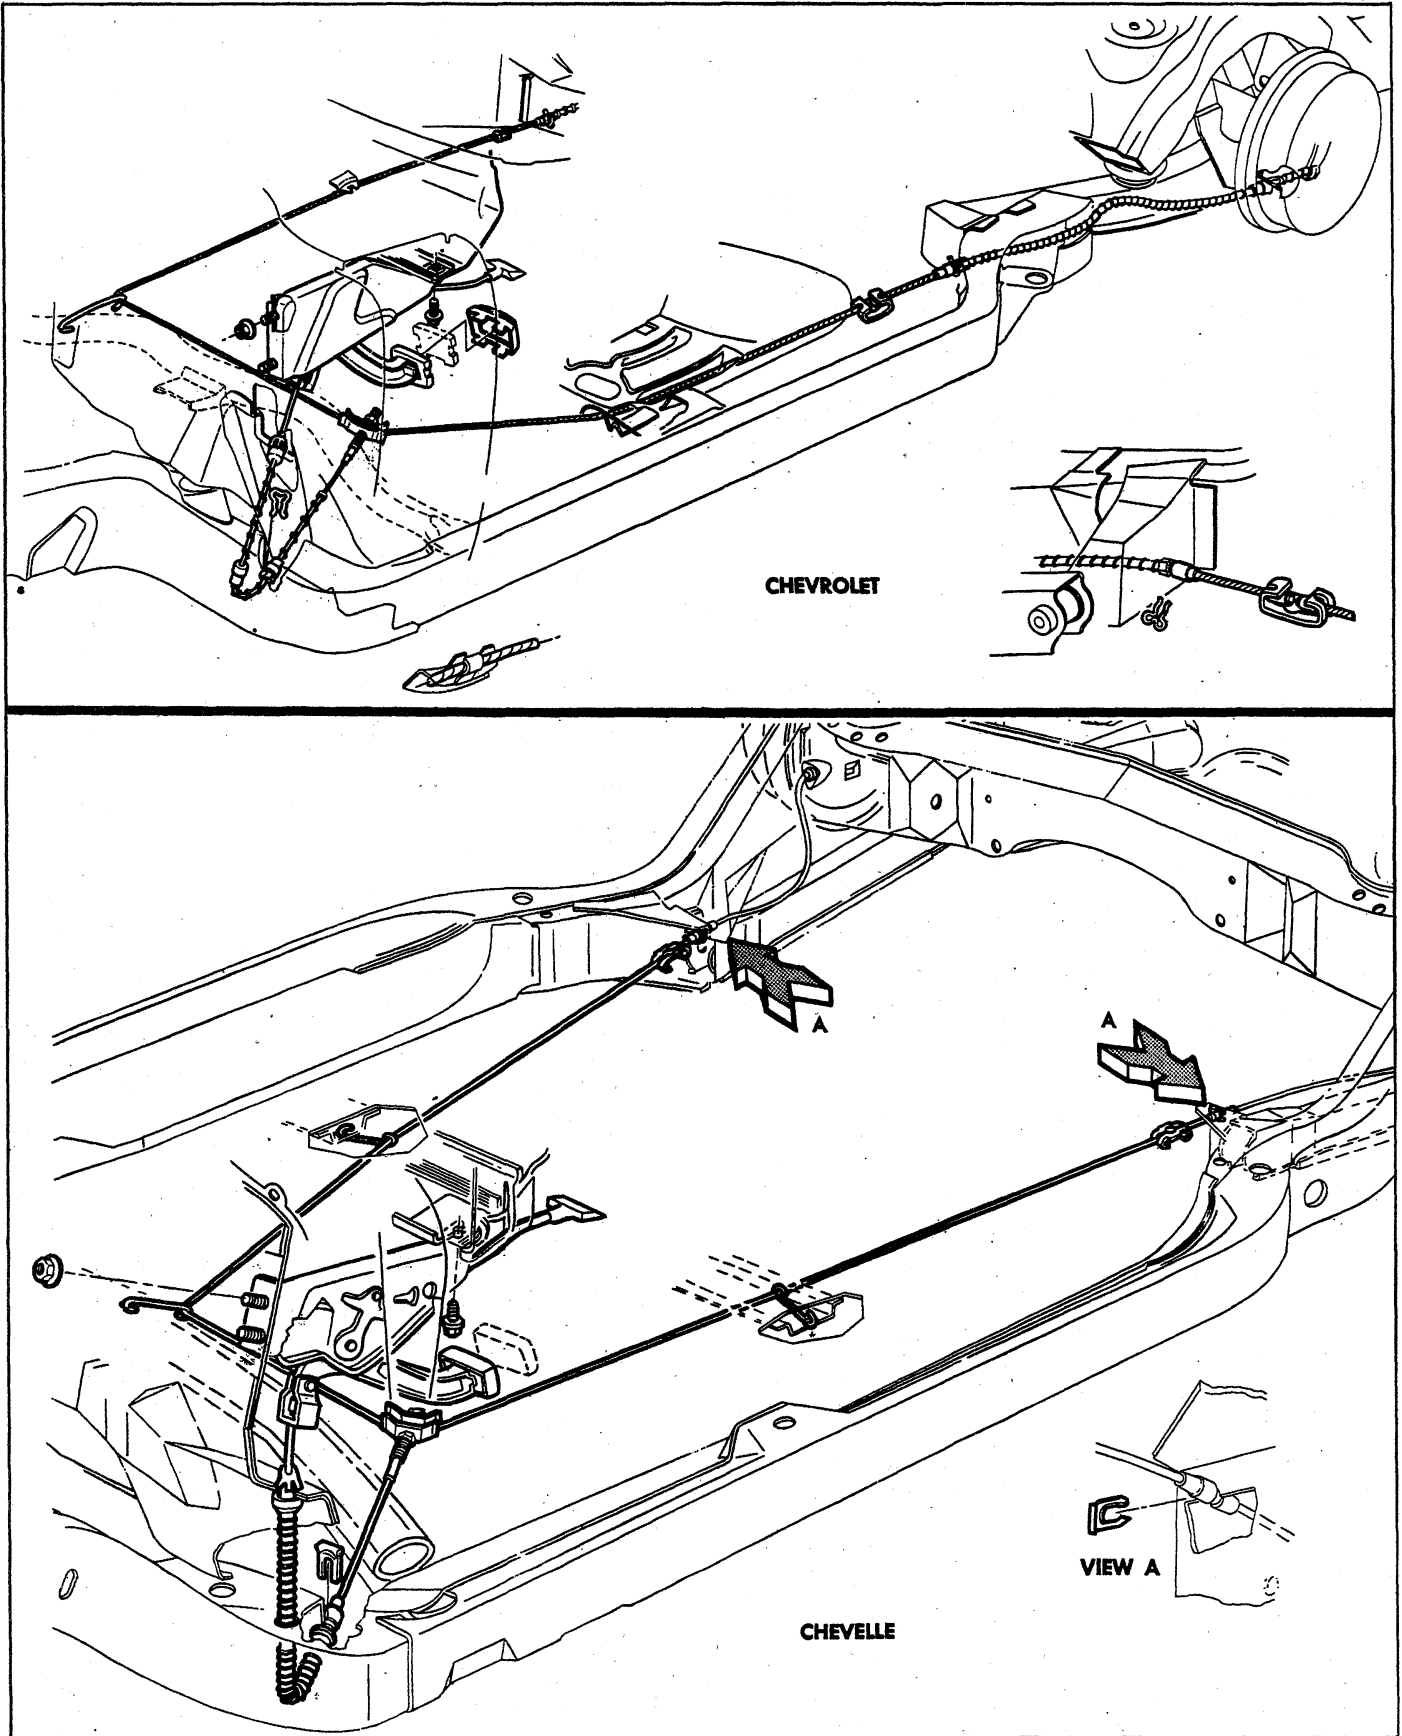

Fig. 19—Parking Brake System—Chevrolet and Chevelle
PARKING BRAKE—CHEVROLET, CHEVELLE AND CAMARO (Figs. 19 and 20)
3. Install cable in cable guides (figs. 19 and 20).